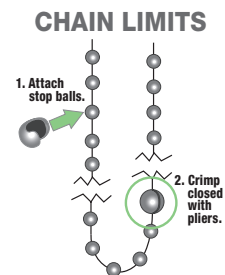

Figure 7
1. Set upper and lower travel limits by installing stop balls to bead chain (crimp closed using pliers) (Fig. 7).